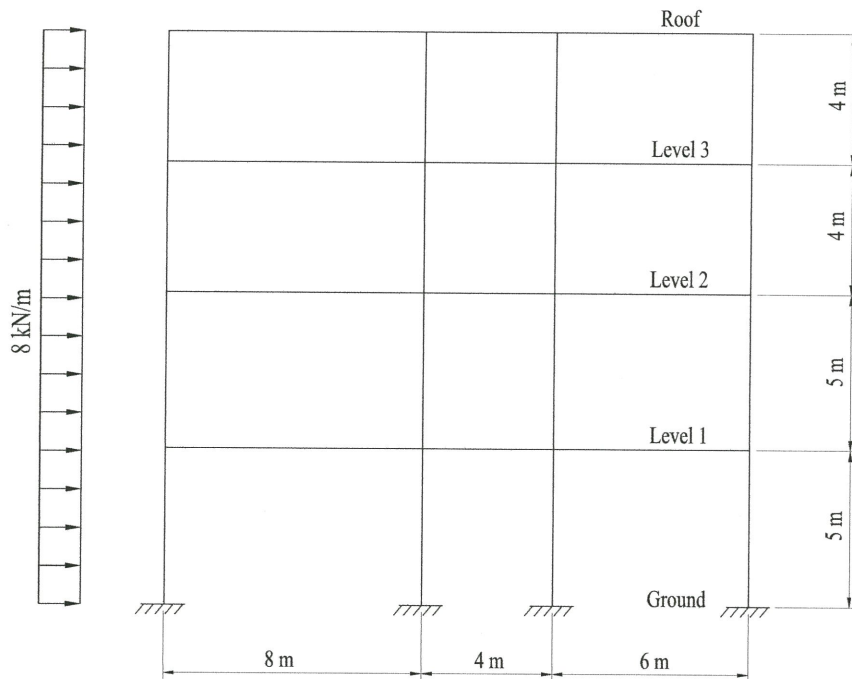

FIGURE Q7
- Q7** Figure Q7 shows a four storey building frame subjected to a maximum wind action of 8 kN per metre height of the frame. By using cantilever method: